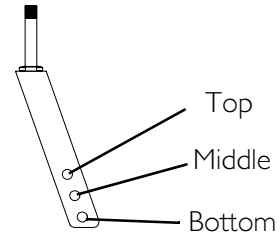

FIGURE 10.1 Changing Seat-to-Floor Height
NOTE: For this procedure, refer to FIGURE 10.1 on page 51.
1. Refer to the following chart in FIGURE 10.1 to determine mounting positions for front casters/forks and rear wheels for the desired obtainable seat-to-floor height: